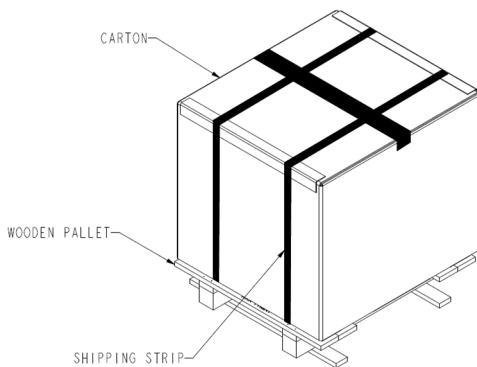

Fig.1
- Cut the shipping strip and remove the carton (see Fig 1)